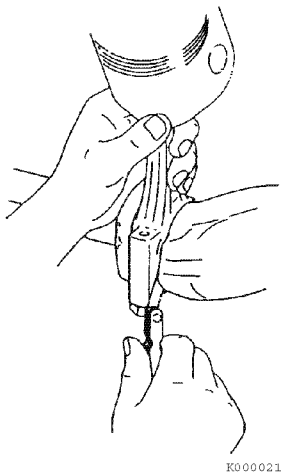

Figure 6-51
1. Using a feeler gauge, measure the connecting rod side clearance as shown (**Figure 6-51**). See *Connecting Rod* on page 6-8 for the standard limit. If the measurement is out of specification, replace the crankshaft, connecting rod, or both.